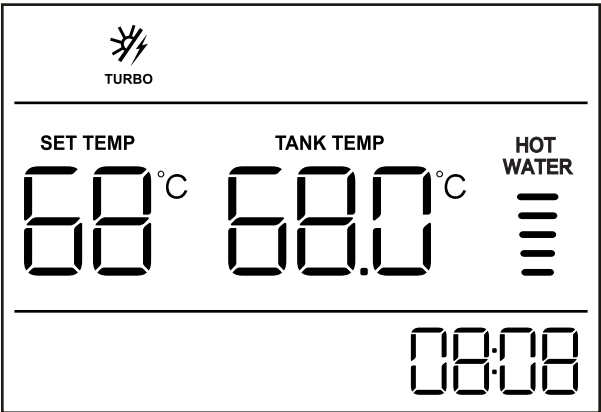

Figure 6.4-8 Main Interface Without Timer
- After finishing all these steps, the display will show up like Figure 6.4-8.